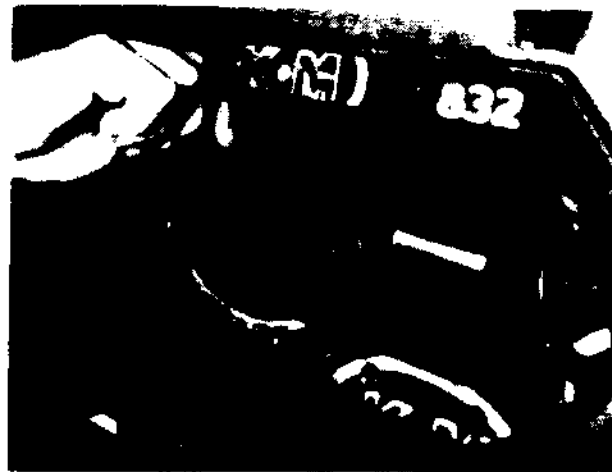

Figure 59
- Measure crankshaft end play: .005 to .028. Push the shaft against the motor end thrust bearing. Using a feeler gauge, measure the distance between the shoulder of the shaft and the thrust bearing at the oil pump end of the shaft (Figure 59). Repeat the measurement of the motor end thrust bearing after pushing the shaft against the pump end thrust bearing. The measurement should be identical at both ends of the crankshaft. If it varies, check the position of the thrust bearings. Table 1 lists thrust bearing wear limits. CRANKSHAFT END PLAY — .005-.028.